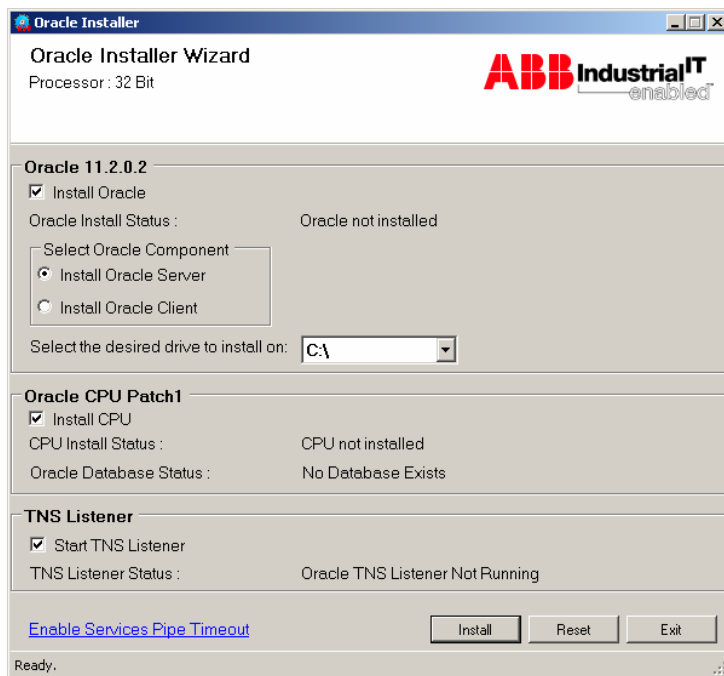

Figure 1. Oracle Installer Wizard
4. The Oracle Installer Wizard (Figure 1) containing the following components is displayed:
The Oracle Server, CPU, and TNS Listener are enabled for installation, by default. The status for the Oracle components is displayed as shown in Figure 1 for a fresh installation.